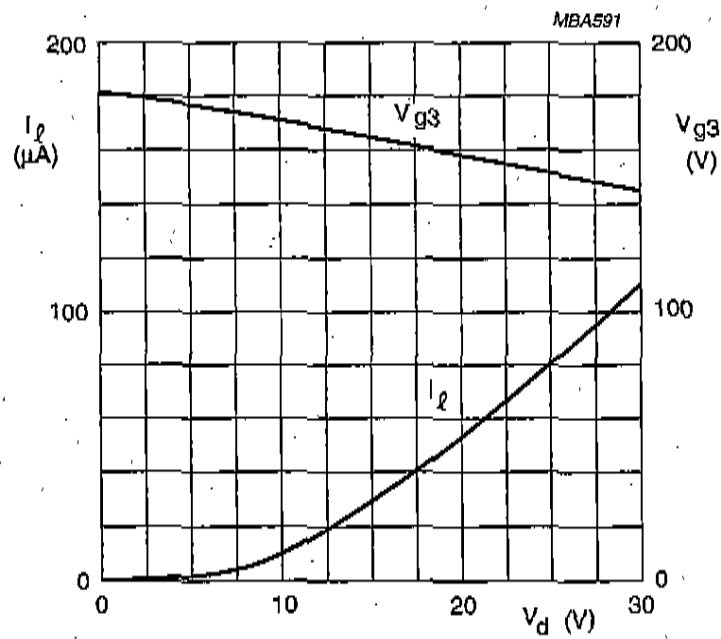

Fig.5 Typical screen current (I_s) and focus voltage (V_{g3}) curves as a function of grid drive voltage (V_d) at $V_{g2,g4,g5} = 2$ kV.
5. An actual focus range of 30 V should be provided on the front panel. V_{g3} decreases with increasing grid drive (see also Fig.5).
6. Intensity control on the front panel should be limited to the maximum useful screen current (approx. 50 μ A; see also Fig.5). It should be adjusted either by the grid drive voltage (up to 22 V) or for maximum acceptable line width. The corresponding cathode current or $I_{g2,g4}$ (up to 500 μ A) depends upon the cut-off voltage and therefore cannot be used for control settings.